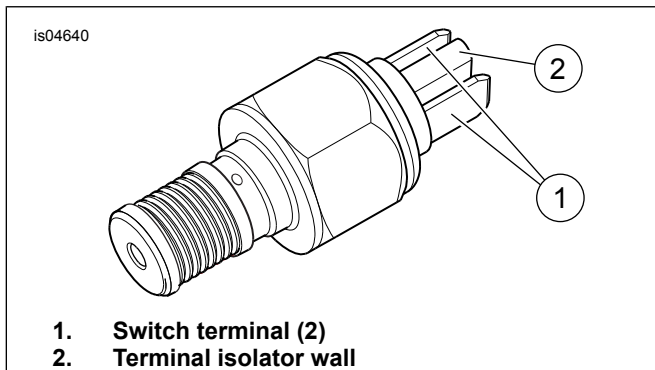

Figure 1. Banjo Bolt With Integral Rear Stop Lamp Switch
3. Carefully make note of the rear brake line routing and orientation of the banjo fittings, then remove the existing brake line. Note that the brake light switch is an integral part of the banjo bolt at the master cylinder end of the brake line. See Figure 1.
inside the connector housing faces the isolator wall. See Figure 1.